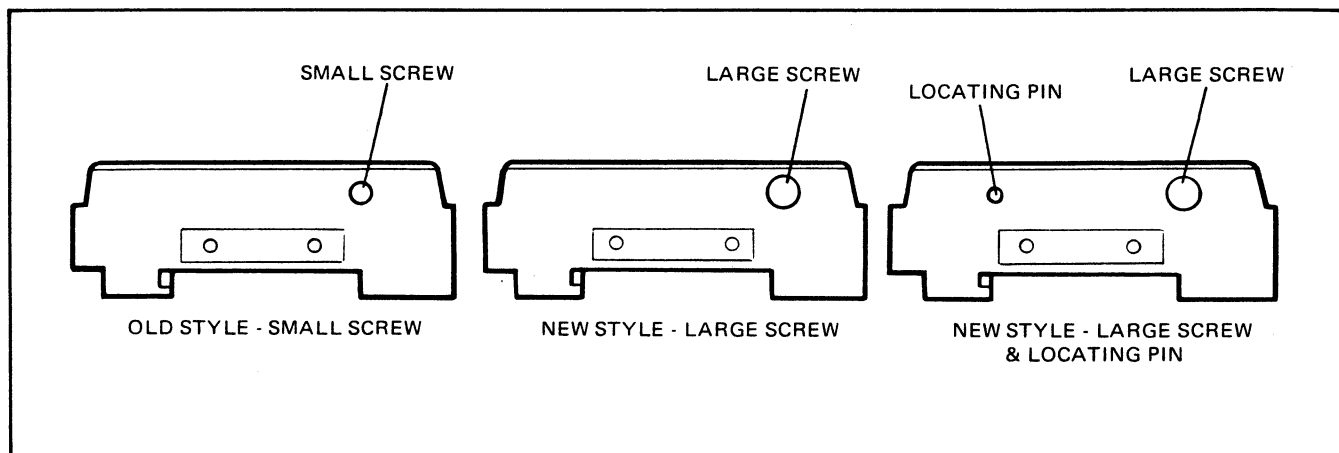

FIG. 5.56 IDENTIFYING THE RF/VF MODEL
4. If the housing is damaged and must be replaced, it is necessary to identify the particular housing model. Use Figure 5-56 to determine the model. If the housing is the old style with a small screw, discard both housing and screw. If a new style with washer and large screw (or large screw and locating pin) force the screw (and locating pin) out of the housing and retain it and the washer for future use. Finally, if the housing is a new style with rivet and locating pin, remove the